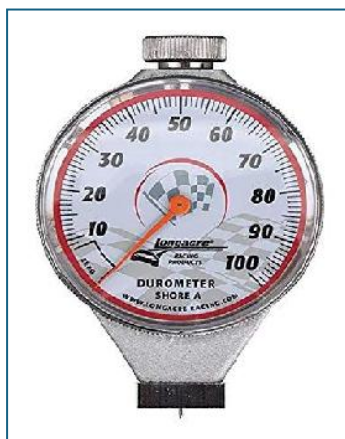

Figure 23
29.5 Tyres must rate at 40 or greater using a Longacre Shore Durometer (*Part No. 50553*) (*Figure 23*). Testing is done during pre or post-race inspections where three measurements must be taken at the centre of the tyre tread area. Measurements post-race can only be taken 20 minutes after race completion to allow a tyre to cool down. If a tyre registers less than 40 the "Head Scrutineer" may require the tyre be removed before that car can race.